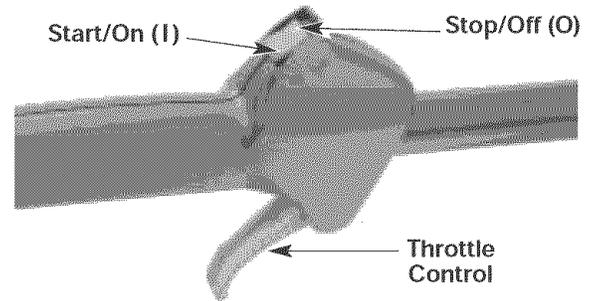

Fig. 3
2. Make sure the On/Off Stop Control is in the **ON [I]** position (Fig. 3).
2. Put the On/Off Stop Control in the OFF (O) position (Fig. 3).